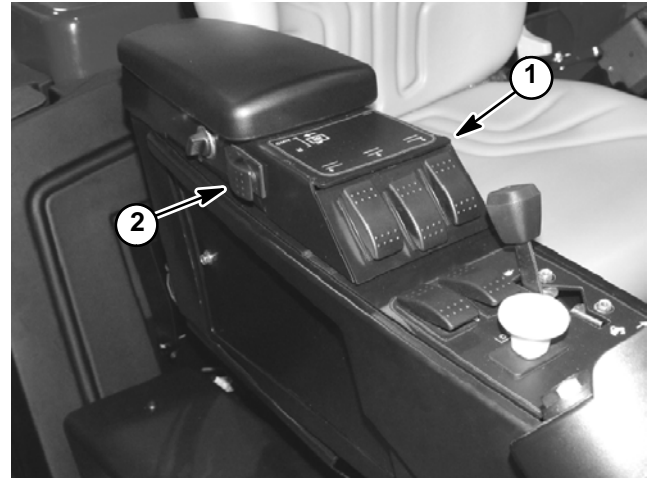

Figure 30
The engine cooling fan switch is a two (2) position rocker switch that is located on the outside of the control console (Fig. 30). The switch has a normal and a momentary position.